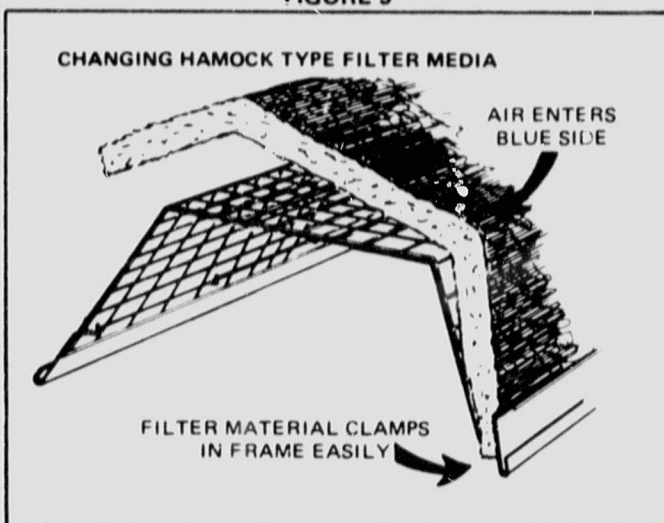

FIGURE 10
- 1 - Replace media in hammock type filter with 1 inch thick fiberglass of the same size. Refer to Figure 10.